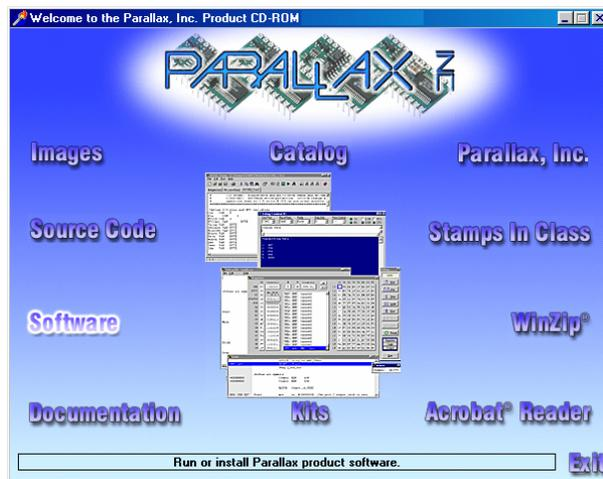

Figure 1-14
- √ Place the Parallax CD into your computer's CD drive. The Parallax CD browser is called the Welcome application. It's shown in Figure 1-14 and it should run as soon as you load the CD into your computer's CD drive.
- √ Click the *Software* link shown in Figure 1-14.